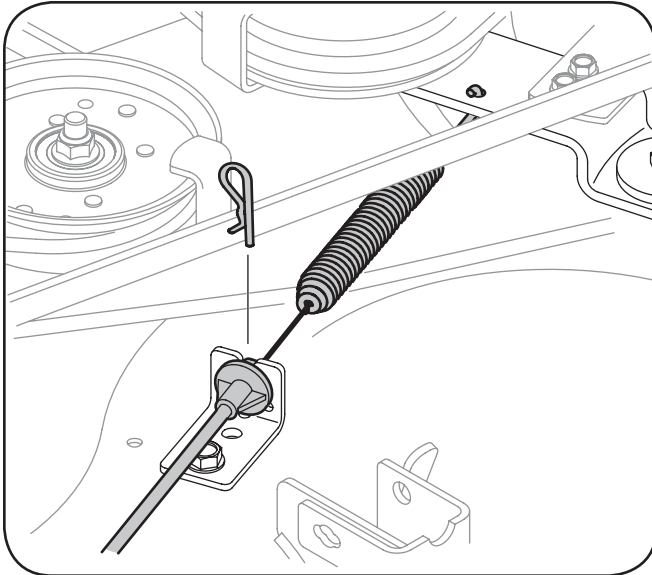

Figure 7-4
- Carefully remove the PTO cable from the rear of the cutting deck by removing the hair pin clip which secures it. Remove the spring from the deck idler bracket. See Fig. 7-4 on the next page.